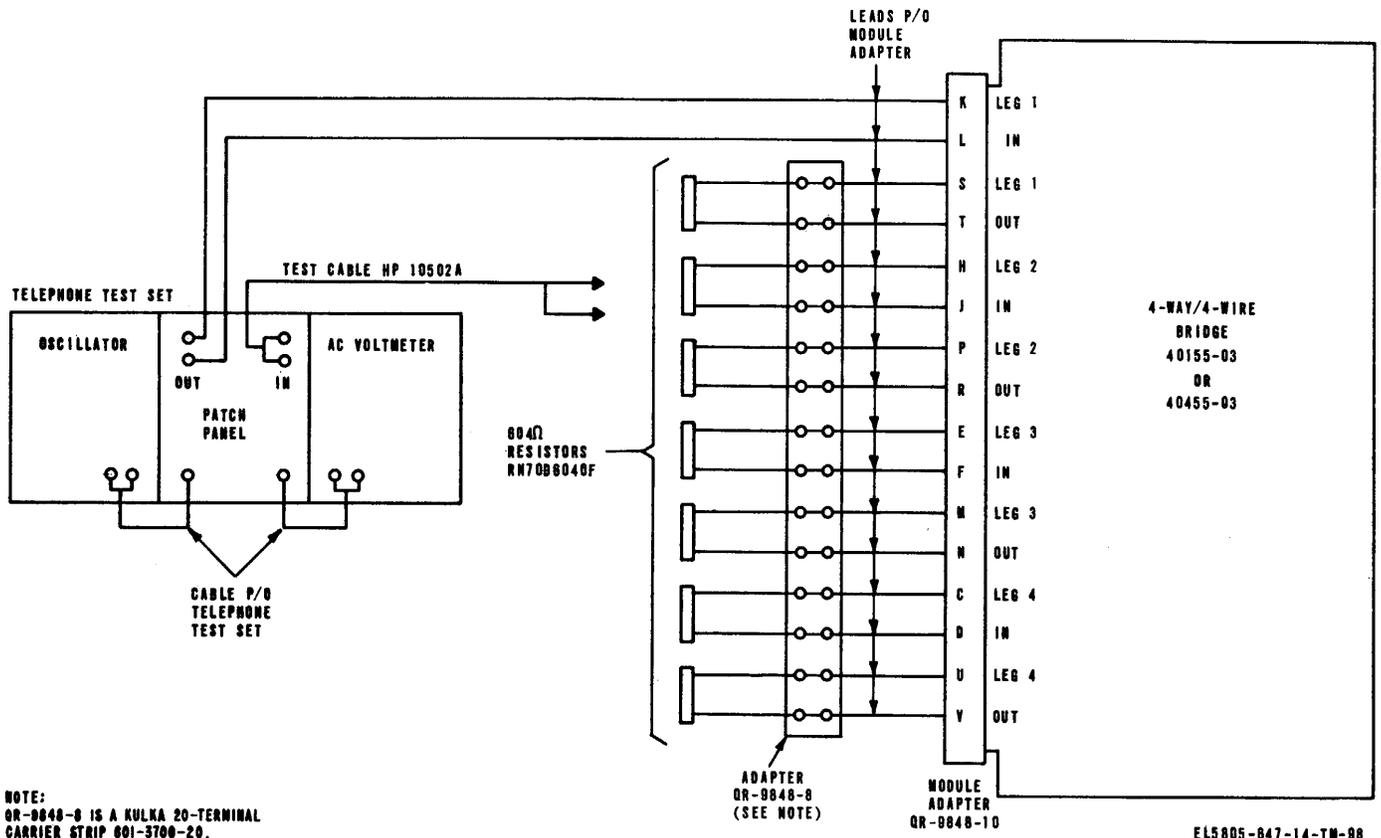

Figure 6-15. 4-Way/4-Wire Bridge 40165-03 and 40455-03, initial test setup diagram.
(1) Connect straps on circuit card as follows to include pads in circuits.
- (2) Connect test equipment as shown in figure 6-15.
- (3) Turn on test equipment.